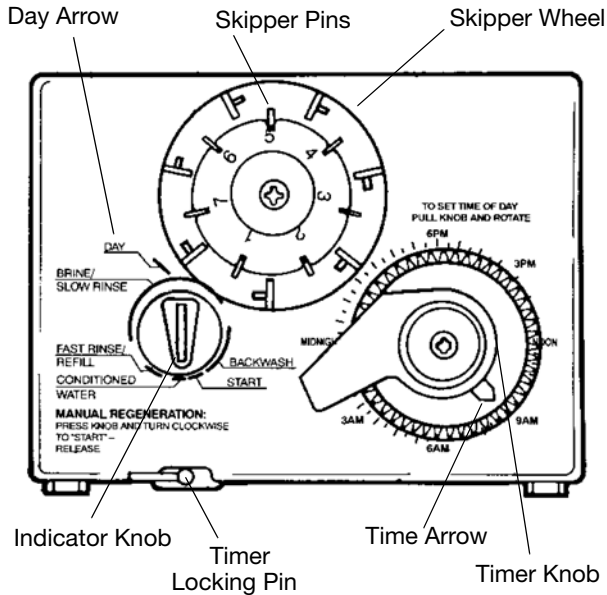
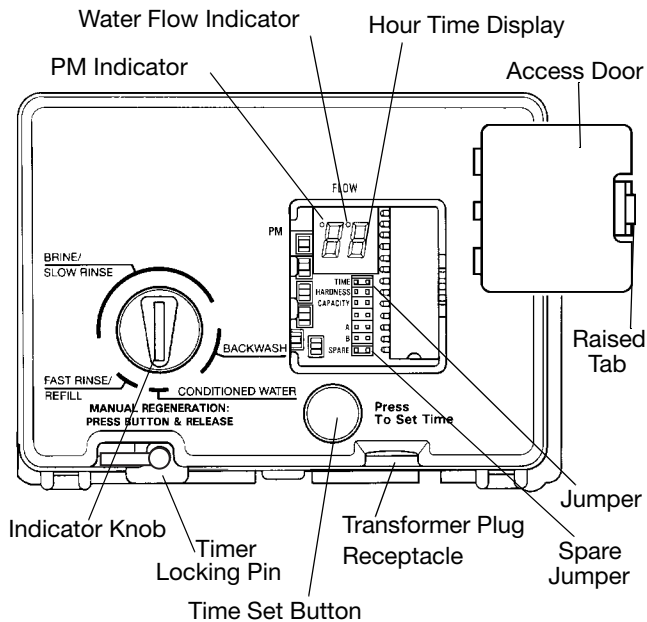

Figure 11
Figure 12
Note: The following steps will require turning the indicator knob (Figure 11) to various positions. Insert a wide-blade screwdriver into arrow slot in indicator knob and press in firmly. With knob held in, rotate **COUNTERCLOCKWISE** only until arrow or knob points to desired position. Rotation is made much easier if you grasp the camshaft with your free hand and turn it at the same time. Then permit knob to spring back out.
2. Insert screwdriver into slot in indicator knob (Figure 11). Press in and rotate knob **COUNTERCLOCKWISE** until arrow points directly to the word **BACKWASH**.
1. Set days of regeneration on skipper wheel (Figure 11).
Note: The Timer Locking Pin should always be horizontal (Figure 11) during operation.
Open the access door by pushing the raised tab on the door toward the left while pulling the tab out (Figure 12).
Note: The Timer Locking Pin should always be horizontal (Figure 12) during operation.
When abnormally high water usage exhausts your water conditioner’s capacity ahead of schedule, an extra regeneration can be achieved. Depress the indicator knob on the 440i (Figure 11) with a wide-blade screwdriver and turn **COUNTERCLOCKWISE to START** to initiate a regeneration. For the 460i, simply depress the indicator knob (Figure 12). It will take a few minutes for regeneration to start. A normal regeneration will take approximately two hours.